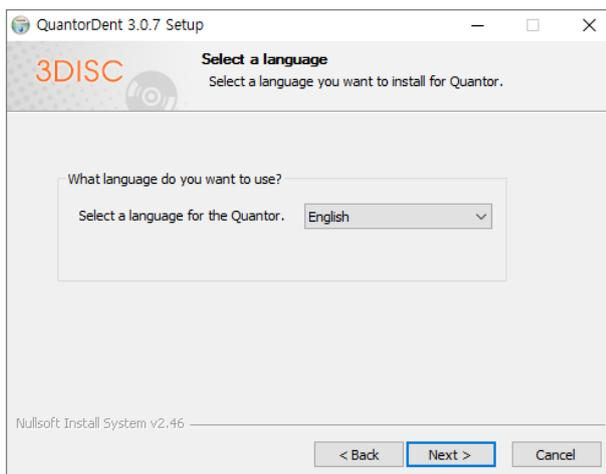

Figure 2.12 Language Select Dialog Box
6. Choose your language and click the "Next" button as shown in Figure 2.12.